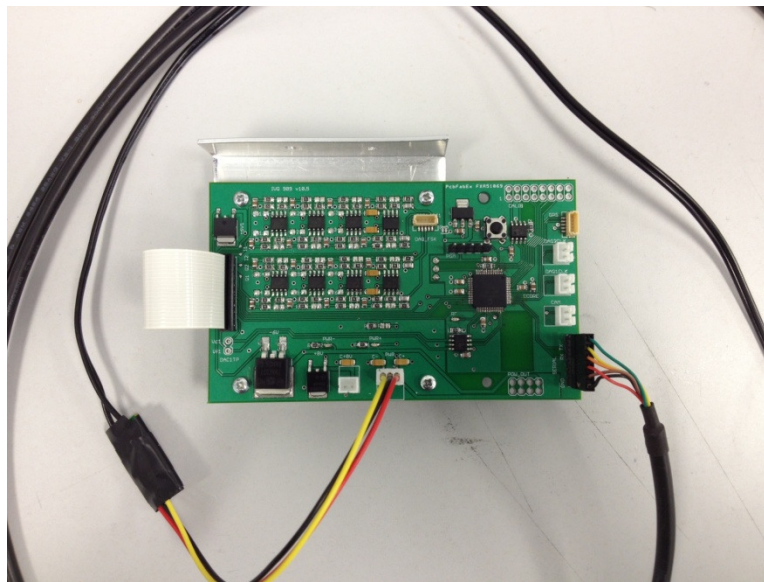

Figure 2: Power supply and serial to USB adapter installation.
Step 1: Connect the single supply to dual supply adapter and the serial to USB adapter to the component side of the module. The single supply to dual supply connector uses a three pin polarized JST connector and plugs in on the lower center of the board and labeled “PWR”. The serial to USB adapter plugs into a row of male headers on the lower right side of the module labeled “SERIAL”. The black wire on the cable should be oriented downwards as seen in Figure 2.